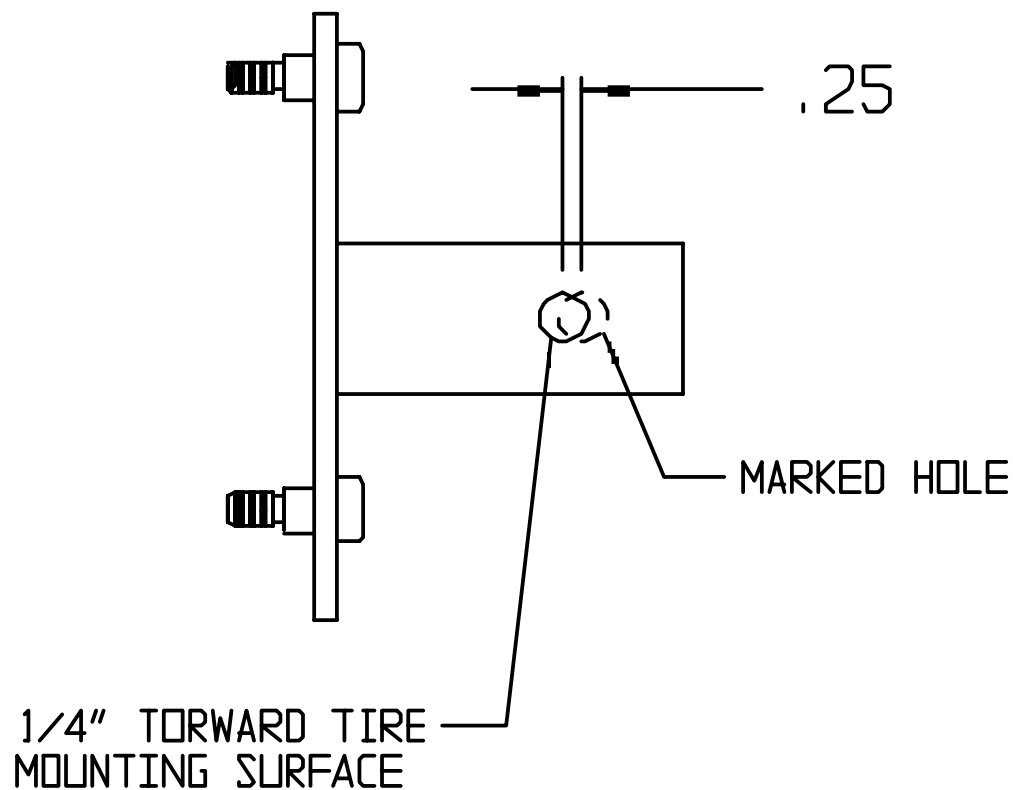

Figure 17, Drill hole
20. Remove the tire and wheel from the mounting bracket. Using the marked location on the tire mounting bracket in the previous step, measure $\frac{1}{4}$ " back toward the wheel mounting surface. This will give the tire pre-load when mounted. Using a $\frac{1}{2}$ " drill bit, drill a hole through both sides of the tire mounting bracket at the marked location. Be sure to re-mark the hole $\frac{1}{4}$ " closer to the tire mounting surface for pre-load. **See Figure 17.**